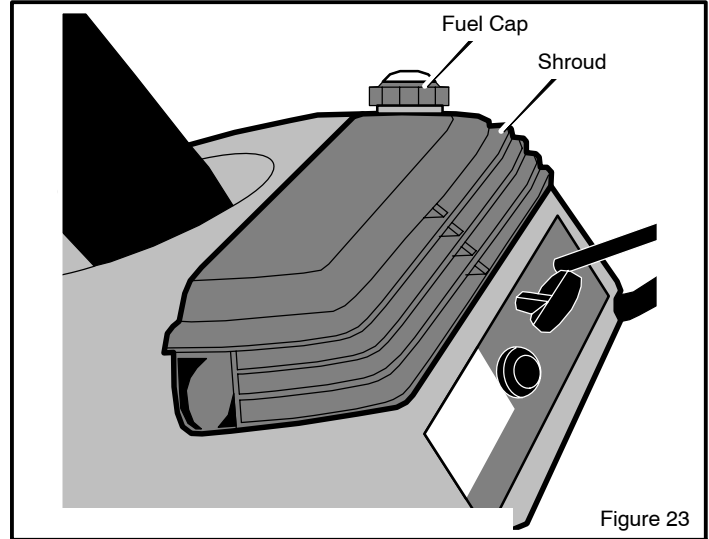

Figure 23
1. Remove the **fuel cap** (see Figure 23).
9. Remove the **fuel cap** and install the **shroud** (see Figure 23).